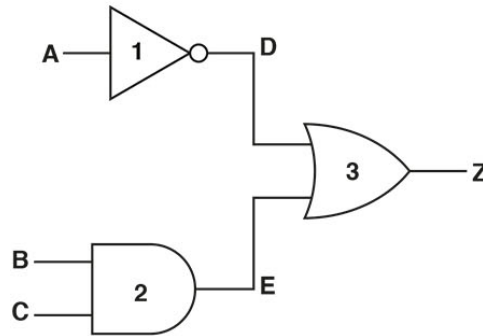

Fig. 1
- 4 (a) Fig. 1 shows a logic gate circuit being used by a test technician.
- (i) State the name of each of the logic gates in Fig. 1.